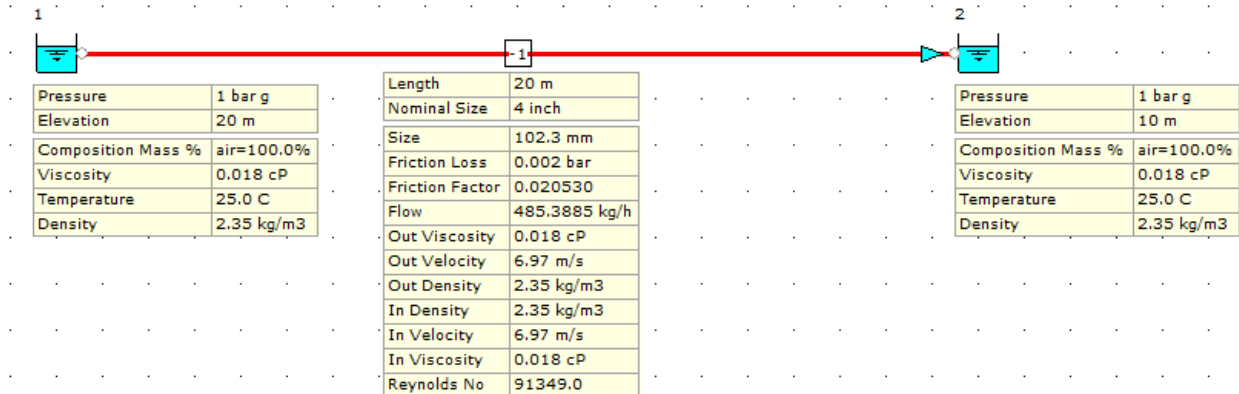

**Figure 41: Element Properties Dialogue Box.**
45. Now we will select the field titled *Properties* from the Input list. An *Element Properties* dialogue box will appear (Figure 41):